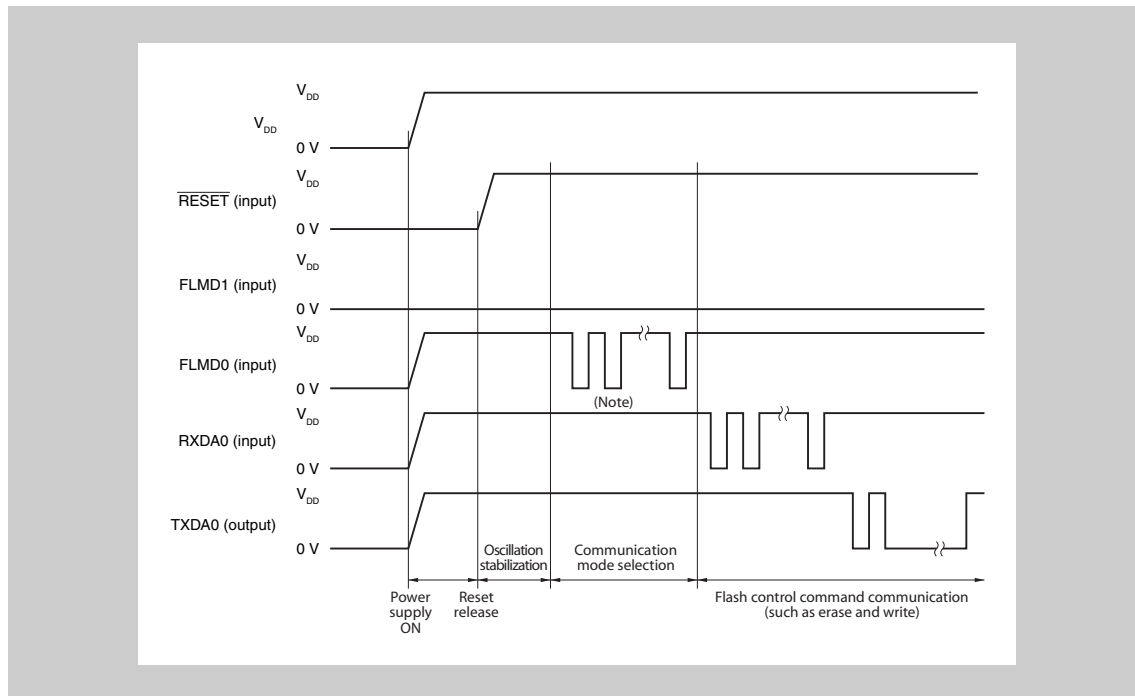

Figure 6-12 Flash memory programming mode start-up
*Figure 6-12* gives an example how the UARTA0 is established for the communication between the flash programmer and the microcontroller.